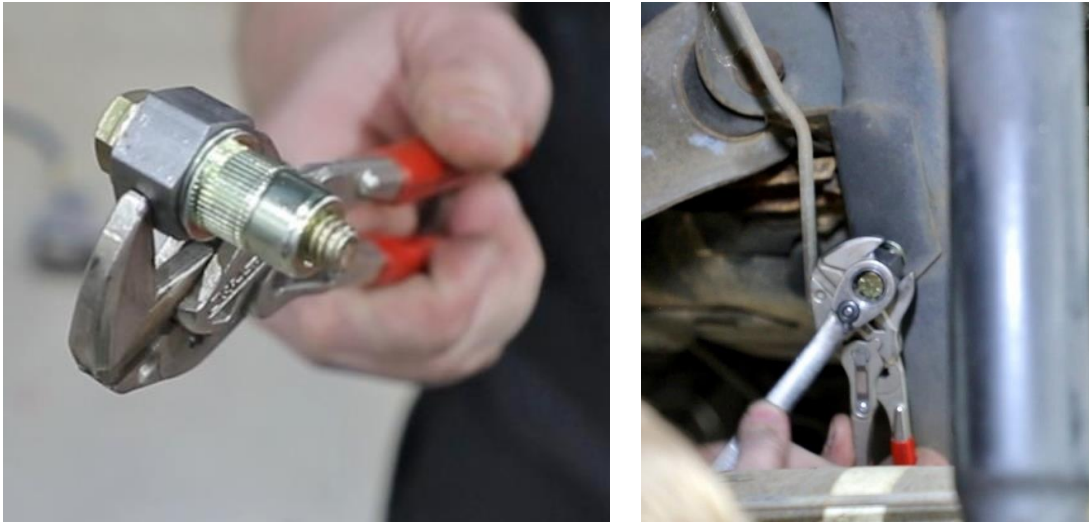

Figure 16 - Install Nut Insert
19. With the tool assembled, place the nut insert into the drilled hole. Hold the larger hex with a $3/4$ " wrench and tighten the bolt using a $1/2$ " wrench. Tighten the assembly so that the bolt will no longer turn (Figure 16 on the next page).